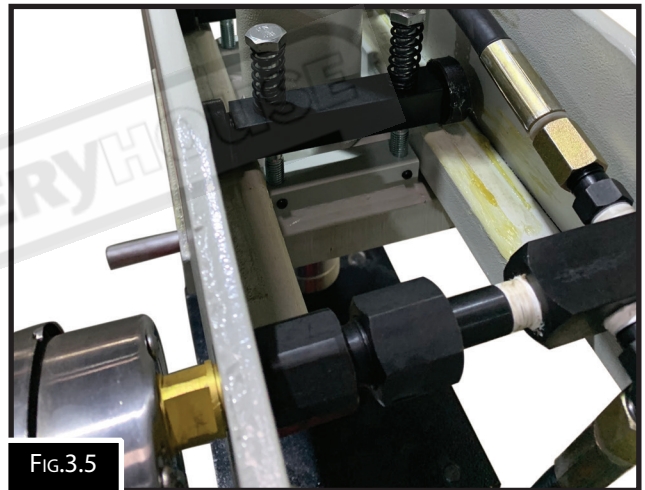

FIG.3.5
6. Make sure all the hoses are connected and check all the hose connections to make sure there are no leaks.(Fig.3.5)